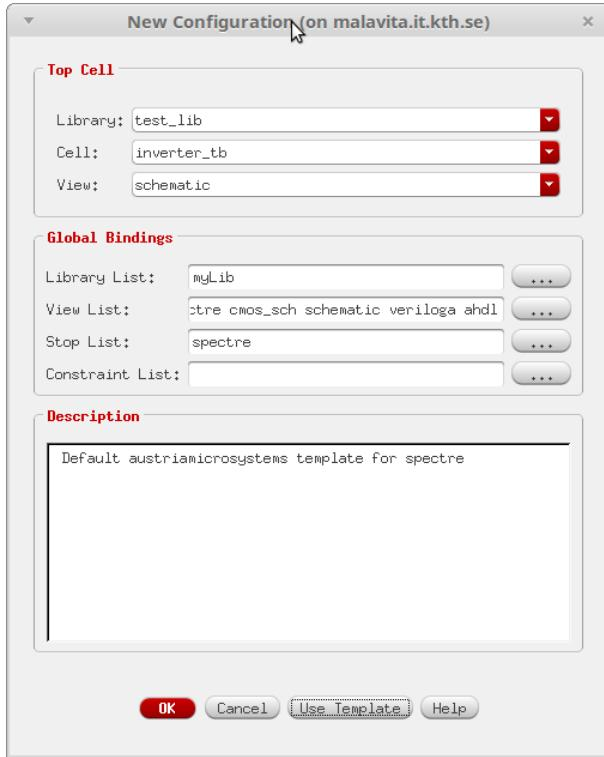

Figure 23: New Configuration Window
2. In the new configuration window that pops up (Fig. 23) click on the "Use Template" button and select spectre in the "Name" field.